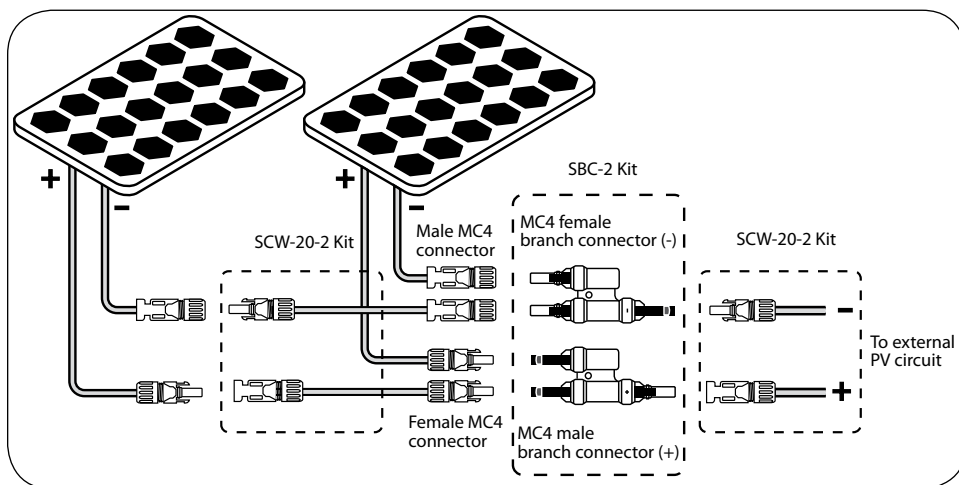

Fig. 6.6. Connecting two solar panels in parallel that are separated by an extended distance
6.6. Connecting two solar panels in parallel when separated by a distance (Fig. 6.6)
Fig. 6.6 above shows an arrangement for connecting two solar panels in parallel that are separated by an extended distance. In this case, the following will be required: